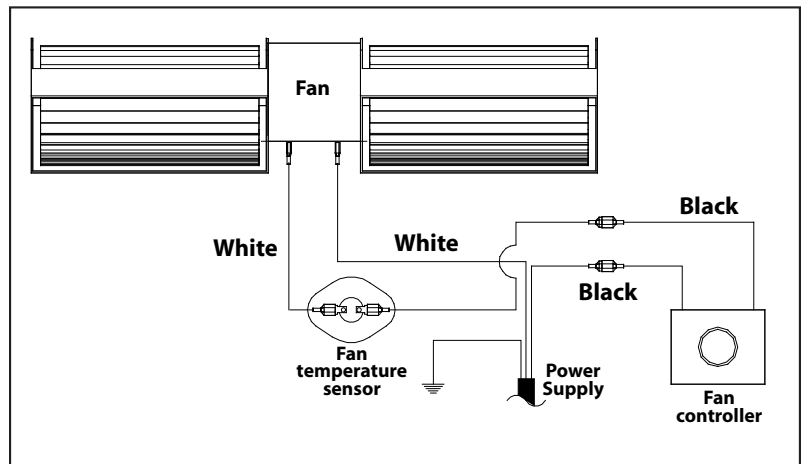

Figure 50: Wiring Diagram For Fan Control.
3. Open the gas valve cover. Carefully cut the decal portion on the control panel and install the fan control switch in this location. See Figure 50 for wiring of optional blower.